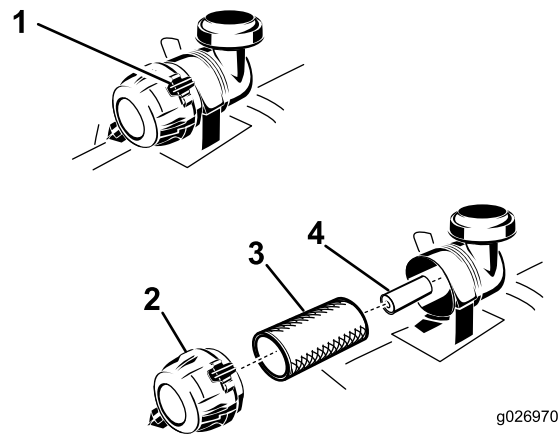

Figure 42
3. Push down to release the retaining clamps on the air cleaner, and pull the air-cleaner cover off the air-cleaner body (Figure 42).
5. Gently slide the primary filter out of the air-cleaner body (Figure 42). Avoid knocking the filter into the side of the body.
1. Do not clean the paper filter, replace it (Figure 42).
2. If the secondary filter is being replaced, carefully slide it into the filter body (Figure 42).
3. Carefully slide the primary filter over the secondary filter (Figure 42).
5. Install the air-cleaner cover with the breather cap down, and rotate so that the retaining clamps lock the cover in place (Figure 42).